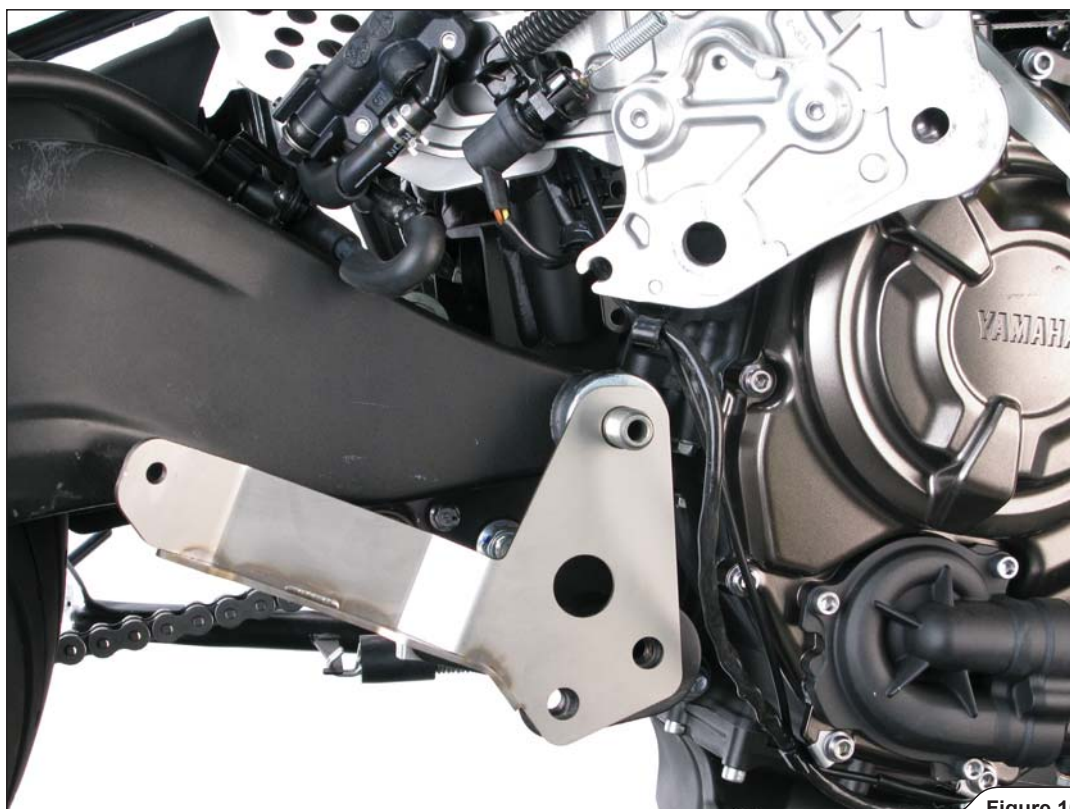

Figure 10
2. Assemble the muffler's bracket from Akrapovič installation kit as shown; tighten the stock swing arm's pivot nut and stock bracket bolts to the specified torque (Figure 10, 11).